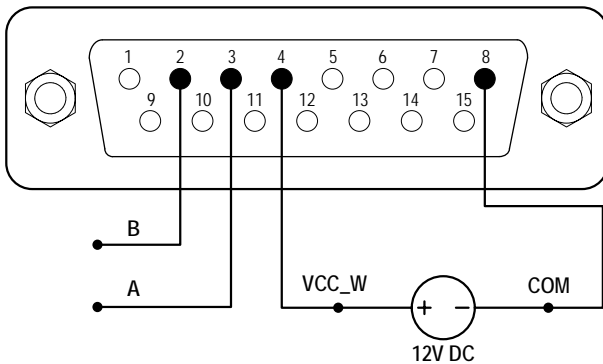
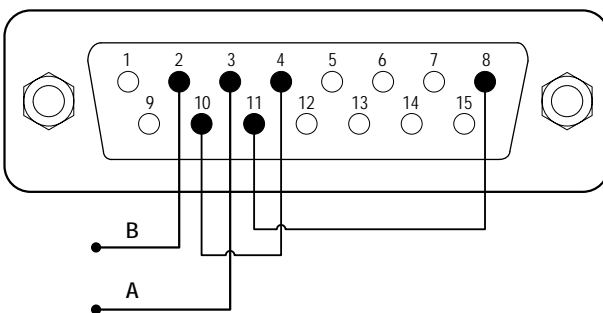

Figure 53 Control Start/Stop with an External 12V Power Source
Figure 54 Control Start/Stop with an Internal 12V Power Source
- 1) Power off the pump. Connect the DB15 connector according to the wiring diagrams shown in Figure 53 or Figure 54, and connect it to the DB15 port at the rear of the pump.